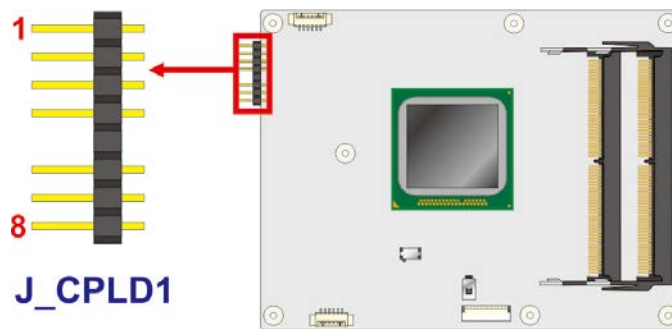

Figure 3-5: CPLD Programming Connector Location
- CN Location:** See **Figure 3-5**